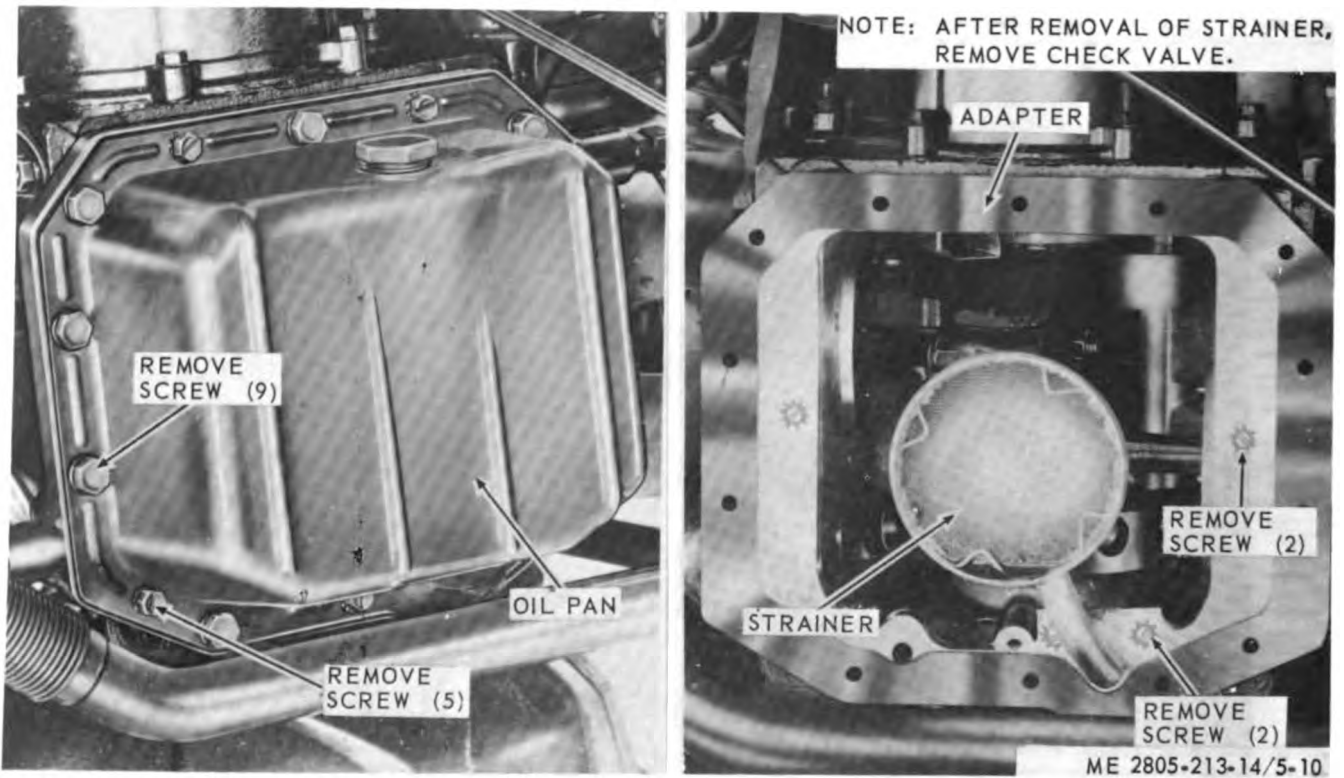

Figure 5-10. Oil pan, oil pan adapter, strainer, and check valve, removal and installation.
a. Removal. Refer to figure 5-10 and remove
(1) Clean the oil pan, adapter, and strainer with an approved cleaning solvent and dry thoroughly.
(2) Inspect the oil pan, adapter, and strainer, for cracks, distortion, and other damage.
(3) Inspect the mounting hardware for damaged threads, cracks, distortion, and other damage.
(4) Replace all defective parts.
c. Installation. Refer to figure 5-10 and install the oil pan, oil pan adapter, strainer, and check valve.